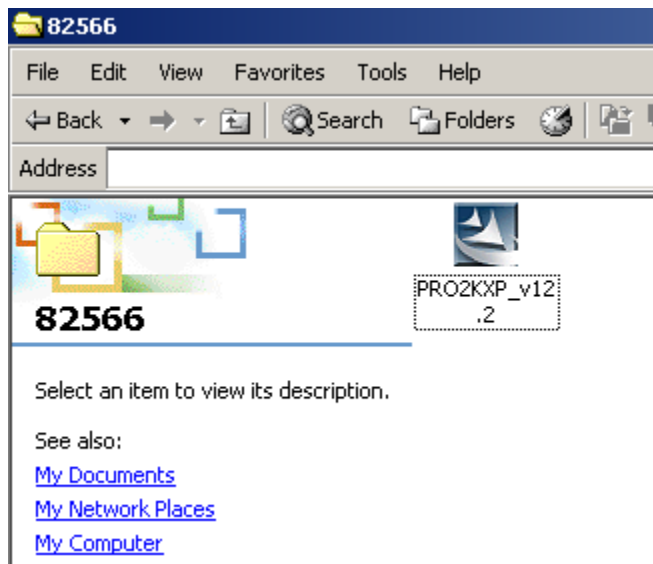

Figure 7-23: Intel® 82566 Device Driver Startup Icon
Step 10: A window containing the Intel® 82566 driver startup icon appears. See **Figure 7-23**.
Step 11: Double click the Intel® 82566 driver startup icon in **Figure 7-23**.